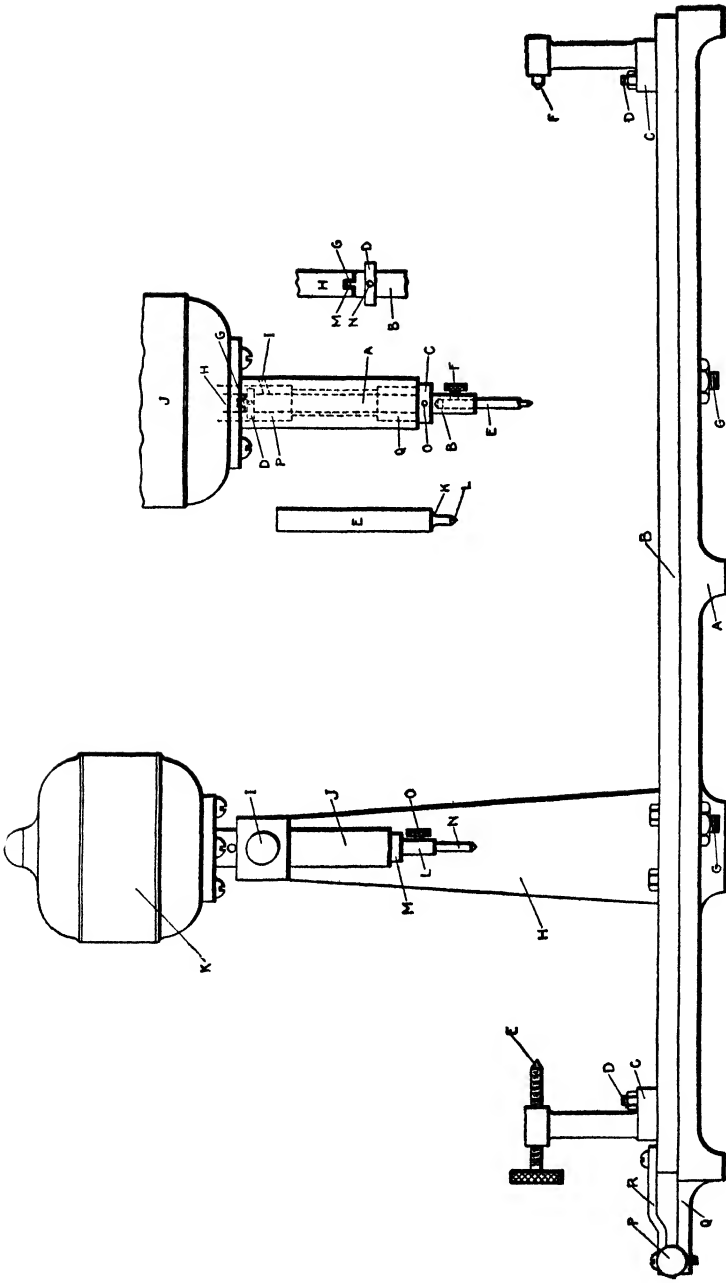

Fig. 10. Machine for Removing Mica from Between the Commutator Segments
*Design.* In Fig. 10 is given a side view of a motor-driven machine. The base *A* is made of cast iron 24 inches long, 5½ inches wide, and 1½ inches high; sliding on this base is a carriage
The needle assembly, Fig. 10, consists of a spindle *A*, on which is mounted the motor *J* screwed to the flange. The shaft *B* is a piece of  $\frac{1}{4}$ -inch drill rod, which comes perfectly true and smooth. A collar *C* is pinned on with a  $\frac{1}{8}$ -inch pin *O*; the spindle is bored out to take two bronze bushings *P* and *Q*, which
are pressed in and reamed to  $\frac{1}{4}$  inch. An oil hole *I* is drilled to oil the upper bearing, the surplus oil running down the shaft and oiling the lower bearing. The shaft is placed in the spindle and a collar is pinned on at the top *D*. The detail sketch in Fig. 10 shows the end of the shaft, which has a tongue *G* fitting into a slot *M* in the motor shaft *H*, giving a positive, though flexible, drive.